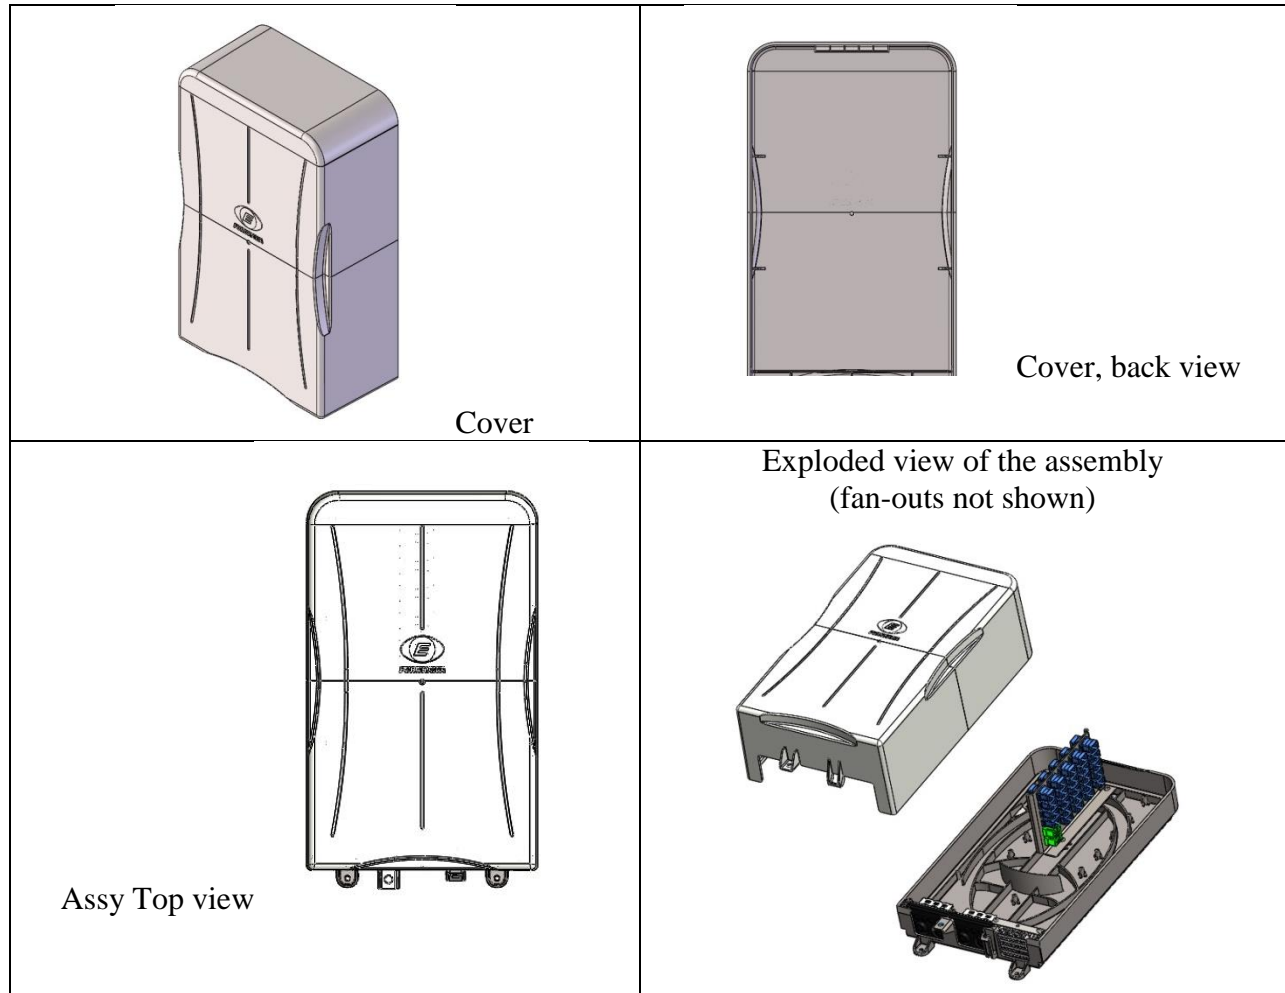

Fig. 3 Components of the “Fan-out” type enclosure
1. Open the closure and examine its content. Ref to Fig.3 and Fig. 5. All assemblies will contain :